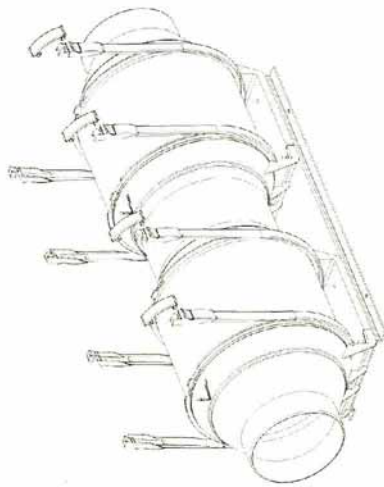
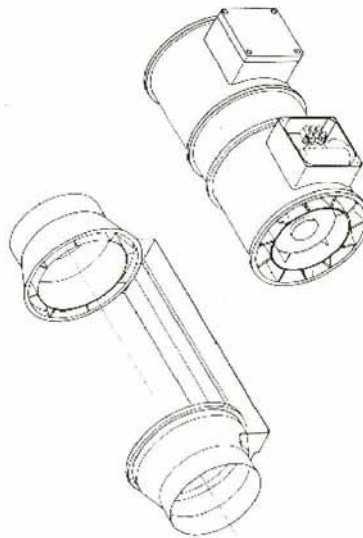

Fig.1
Fig.2
- For installation, remove the motor and impeller assembly from its support bracket (Fig.1: TDx2 350 – fig.2: TDx2 500, 800, 1000 and 1300).